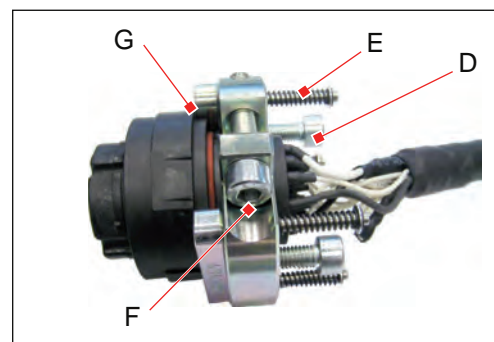

Fig. 15: Put on pull off tool
- 1) Release the 2 screws (D) of the pull off tool until the springs (E) are stress-free (Fig. 15).
- 2) Totally unscrew screw (F) so that the clamp of the pull off tool can be opened.
- ▶ Then lay the pull off tool around the crimp adapter in such a way that the retaining clips (G) touch the edge of the replacement insert.
- ▶ Screw down screw (F) until the pull off tool firmly clasps the crimp adapter.